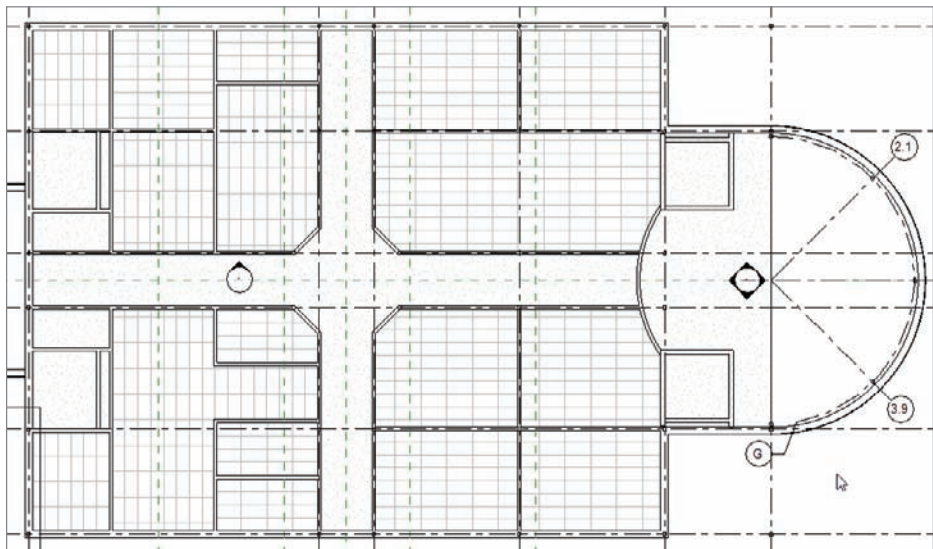

FIGURE 9.6 Adding 2×4 ACT ceilings to the specified rooms
7. Have at it! Add a ceiling to every room in the east wing except for the hallway, the bathrooms, East Radial Entry, and, of course, the elevator shafts, as shown in Figure 9.6.